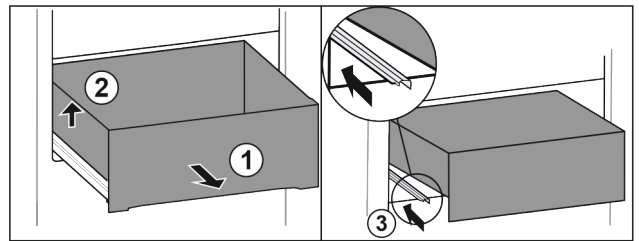

Fig. 68
- ▶ Pull out drawer as far as it will go. Fig. 68 (1)
- ▶ Lift drawer on the left. Fig. 68 (2)
- ▶ Insert left rail. Fig. 68 (3)